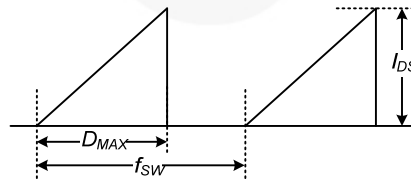

Figure 4. Repetitive Peak Switching Current
- Repetitive peak switching current when the inductive load is assumed: Limited by maximum duty ($D_{MAX}=0.83$) and junction temperature (see Figure 4).